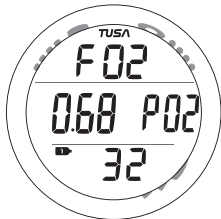

Fig. 76 - NO DECO ALT 2
**NORM No Deco ALT 2**, information includes (Fig. 76) -